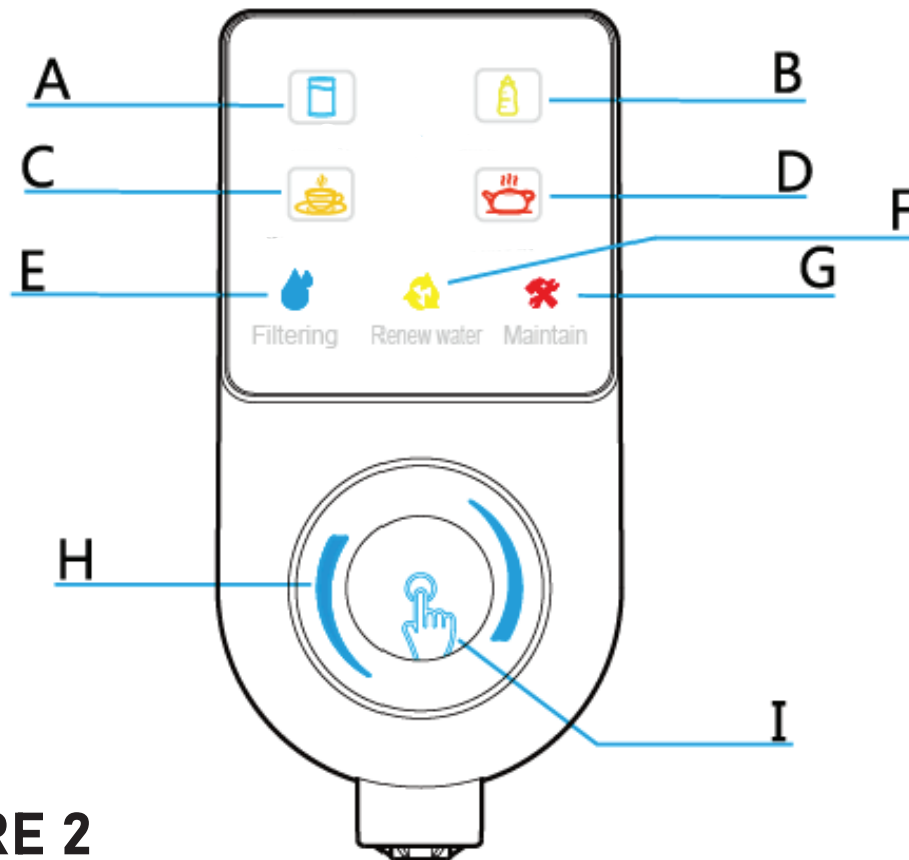

FIGURE 2
- After the setup, the machine automatically enters the flushing state and works for 120 seconds. In the flushing state, the filtering symbol of the display interface light will be on (see Figure 2) .
- After flushing, the machine automatically enters the filtering state. The filtering symbol on the display interface light will be on (see Figure 2).
- The system will detect the source water quality in normal operation. If the water level is lower than the set level, the user will be prompted to replace the source water. You must empty the Supply Tank every time it is refilled. The renew water symbol of the display interface will light up at this time (see Figure 2).